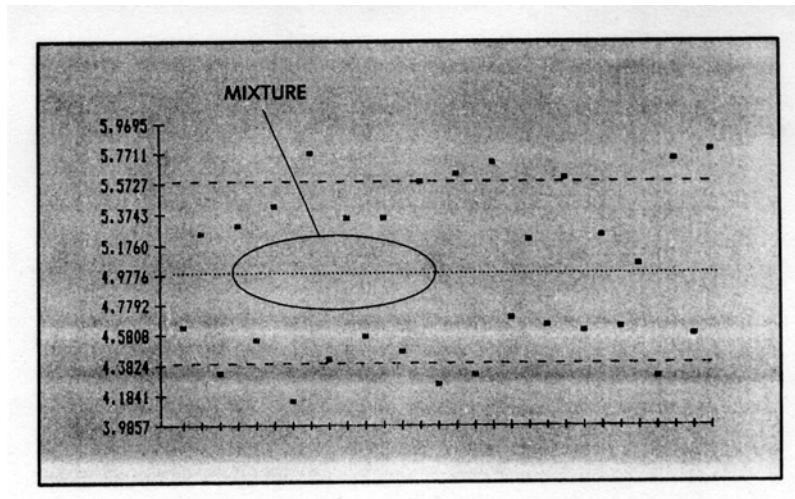

Figure B-6 Mixture Pattern
5. There are almost no points are located near the centerline indicate two group of parts are processed at different level as Figure B-6.